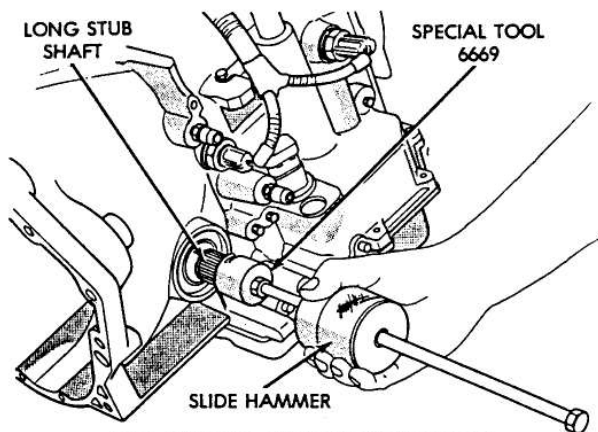

Fig. 17 Long Stub Shaft Removal
- (1) Remove transaxle from vehicle. Refer to "Transaxle Removal and Installation" procedure in this section.
- (2) Remove valve body from transaxle.
- (3) Remove solenoid connector from transaxle case.
- (4) Remove long stub shaft from transaxle (Fig. 17).